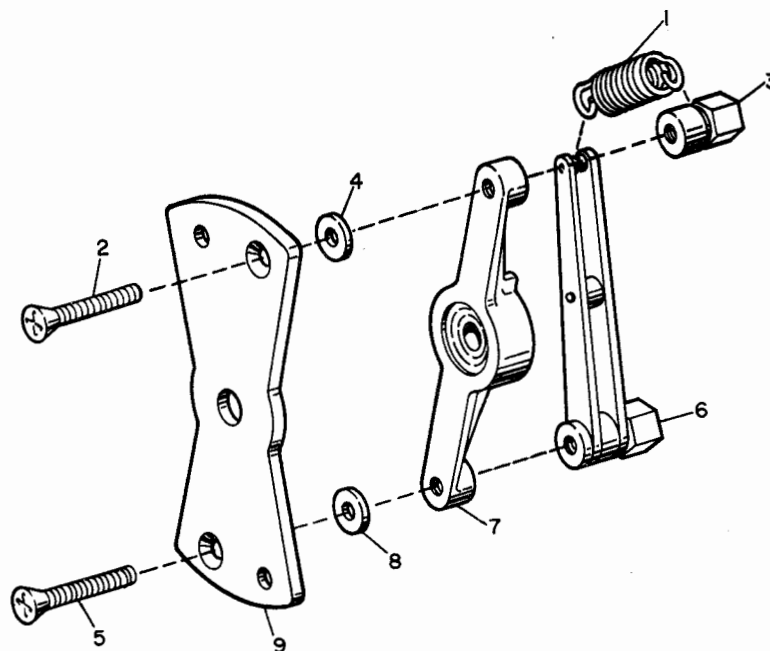

Figure 6-2. Radio Frequency Amplifier AM-2061/URT,
- (13) Place switch (8) over shaft (35) and rotor (11).
- (14) Place lock washers (3) and nuts (2) on end of studs (22).
- (15) Place studs (22) into mounting holes in switch plate (4).
- (16) Feed studs (22) through spacers (5) and washers (6) and (7).
- (17) Feed end of shaft (35) through bearing in switch plate (4).
- (18) Feed studs (22) through mounting holes in switch (8) and washers (12) and (13), spacers (14), and washer (15).
- (19) Feed studs through switch (16) washers (17), spacers (18) and washers (19) and (20).
- (20) Feed studs (22) through mounting holes in switch (21).
- (21) Feed studs (22) through washers (22)(23), spacers (24) and switch plate (28) with end of shaft (35) through bearing in switch plate (22).
- (22) Place lock washers (26) and nuts (27) on end of studs (25) and tighten nuts (27) making certain that the switch assembly is not twisted.
b. DETENT ASSEMBLY. - Refer to figure 6-2 and reassemble the detent assembly as follows:
- (1) Place bolts (2) and (5) through holes shown in plate (9).
- (2) Place washers (4) and (8) over bolts (2) and (5).
- (3) Feed bolts (2) and (5) through holes in support (7).
- (4) Place arm (6) on end of bolt (5) and tighten bolt.
- (5) Place special nut (3) on end of bolt (2) and tighten bolt.
- (6) Hook spring (1) around special nut (3) and other end of spring (1) around arm (6) as shown.